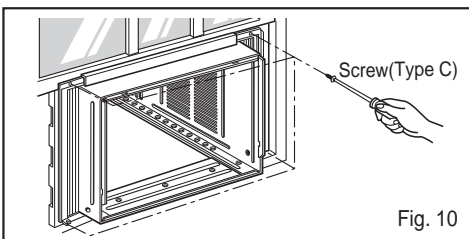

Fig. 10
4. Attach each Frame curtain the window sash by using screws (Type C.) (See Fig. 10)